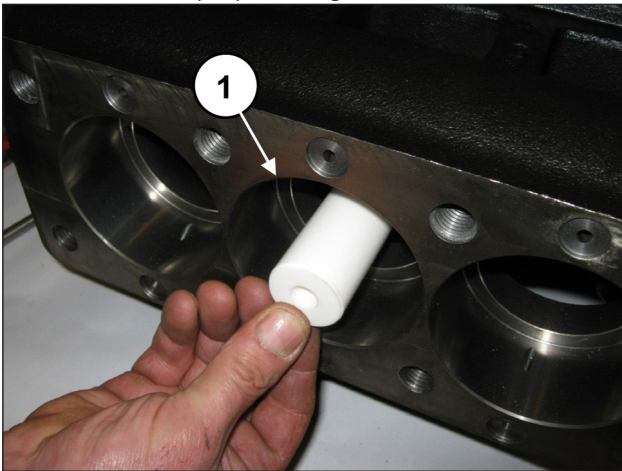
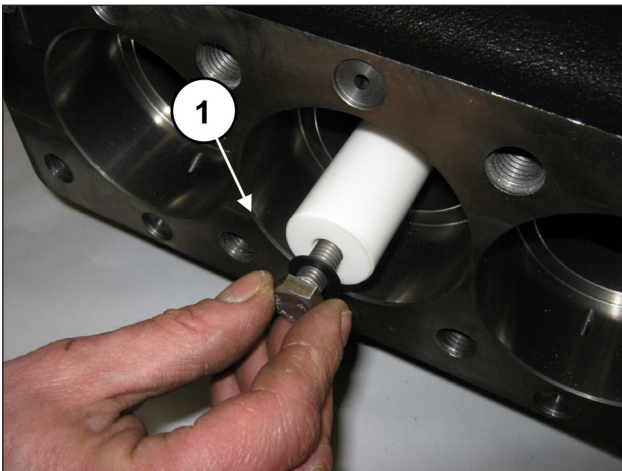

Fig. 182
Fig. 183
Install the pistons on their respective guides (pos. ①, Fig. 182) and fasten them as per pos. ①, Fig. 183.